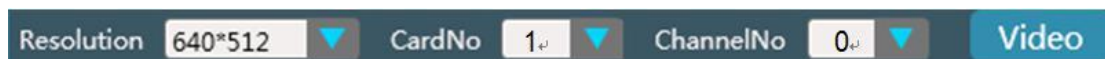

Figure 3-12 Cameralink parameters of the module
3) Select the resolution (640 * 512), card number (0 or 1) and channel number (0 or 1) through the drop-down box options; the parameter line is selected according to the actual output protocol of the core. The camera link digital video parameter setting of this product is shown in Figure 3-12.